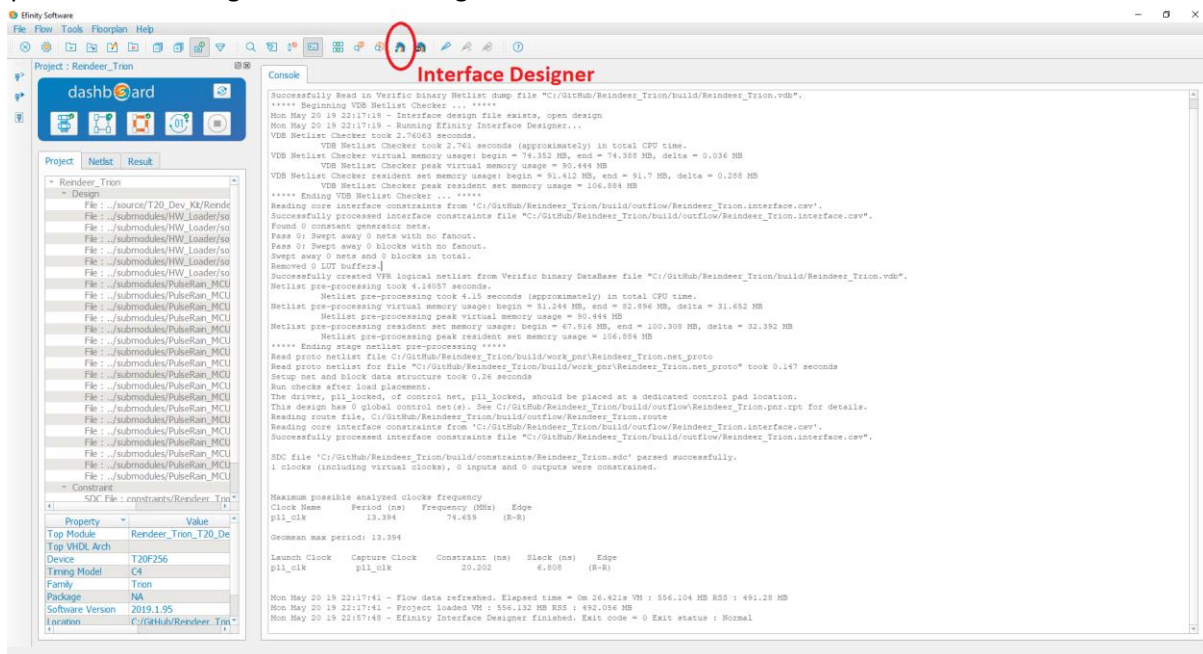

Figure 3-1 Launch Interface Designer
4. Open Interface Designer as shown in Figure 3-1.